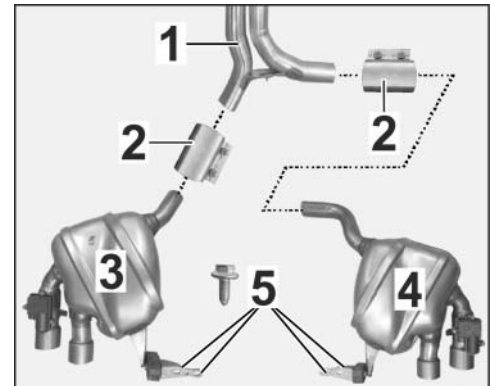

Figure 49
5.3 Install new rear silencers (⇒ *Figure 49*).